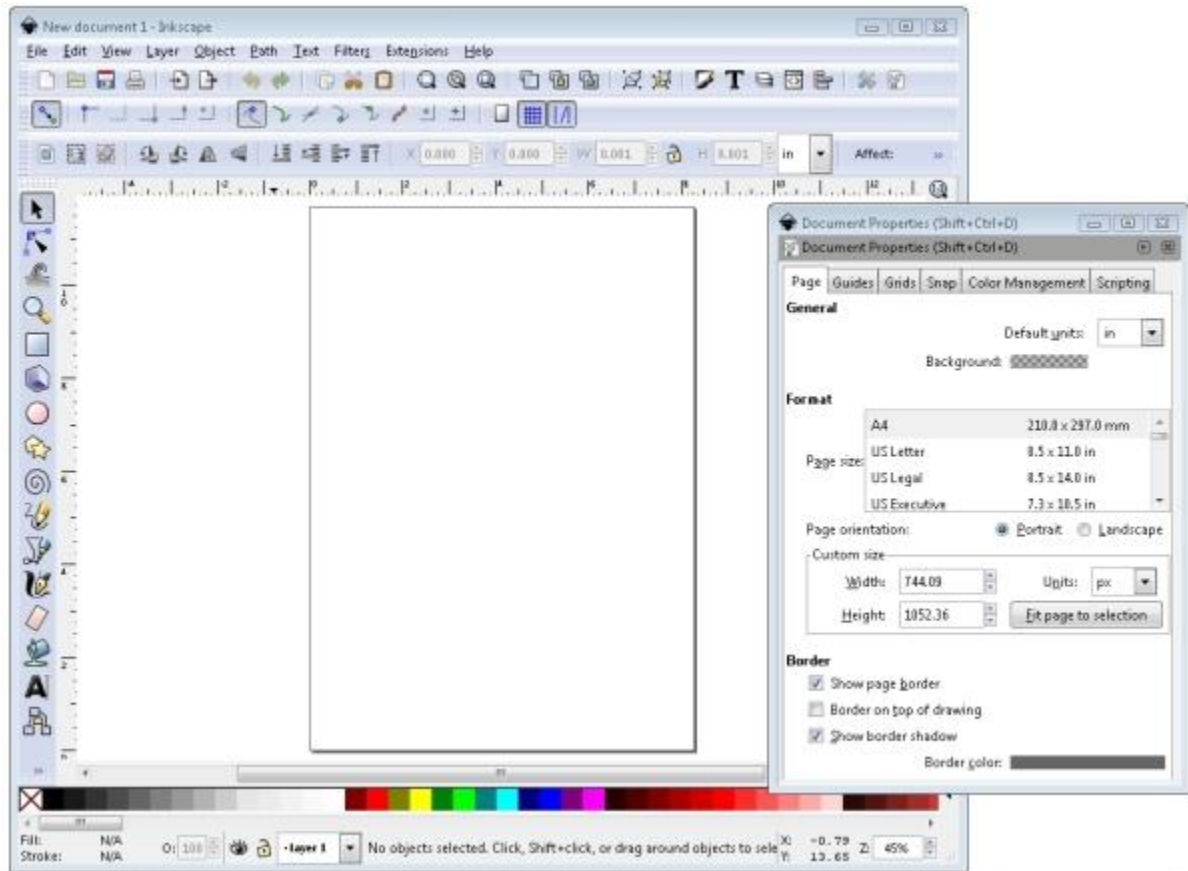

Figure 2
3. Open a new file in Inkscape. Under the file menu, go to Document Properties to get the window shown in Figure 2. Change the default units in the upper right hand corner to inches. Back in the main window, change the rulers from pixels to inches in the toolbar. Your screen should look like Figure 2. Once set, exit that window.